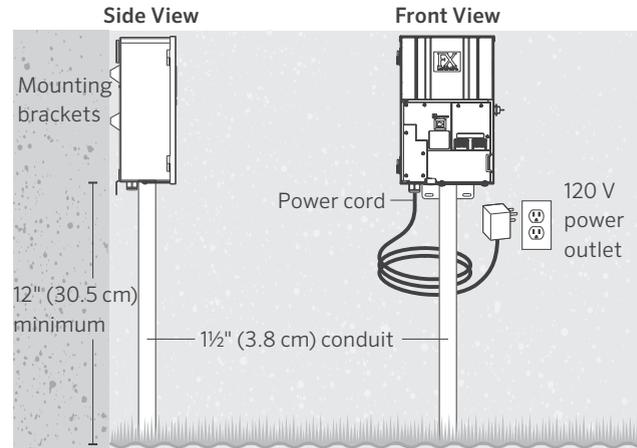

Figure 3: Luxor wall mounting
2. Repeat wall-mount installation instructions (Figure 3 on page 5), without the use of wall anchors.